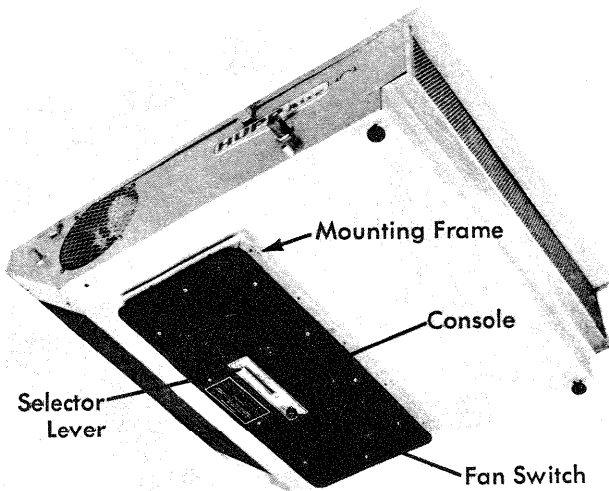

FIGURE 5
2.3.3 Unbolt the heavy mounting frame from the underside of unit by removing six nuts. (See fig. 5.) Using the 1/4" x 1" gasket material, attach it to the bottom flange of the mounting frame and then bolt the frame to the roof using the 1/4-20 x 1/2" bolts and 1/4" lock washers. (First cut clearance holes in gasket at hole locations.) Insert bolts from inside cab and tighten securely.
With the selector lever (fig. 5) in full "cool" position,